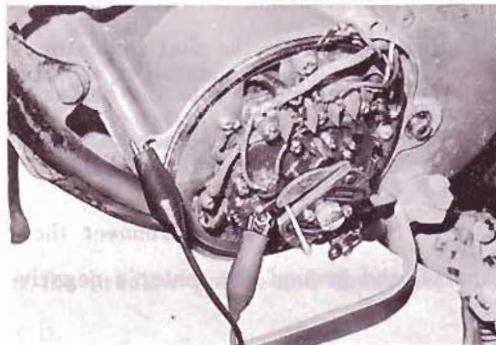

Fig. VII-5-17
d) Wedge the governor, fully open. Then loosen the breaker plate holding screws, and turn the breaker plate. When the points just start to open (the testing lamp lights up), tighten the holding screws. (Do not fully loosen the breaker plate holding screw, because the breaker plate tends to shift its position). Turning the breaker plate in the engine rotation direction causes ignition timing to delay, and turning it in the opposite direction advances ignition timing. (Figs. VII-5-17 and 18)